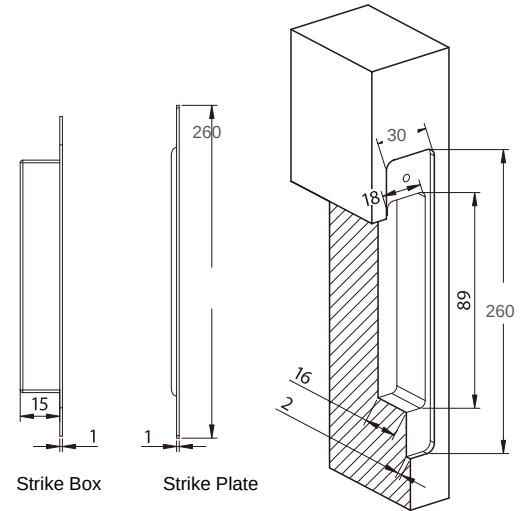

Fig.2
1. Cut the strike box recess as shown (Fig. 2, Fig. 3): depth 15mm, length 126mm.
2. The strike plate is 23mm wide $\times$ 127mm long (Fig. 2).